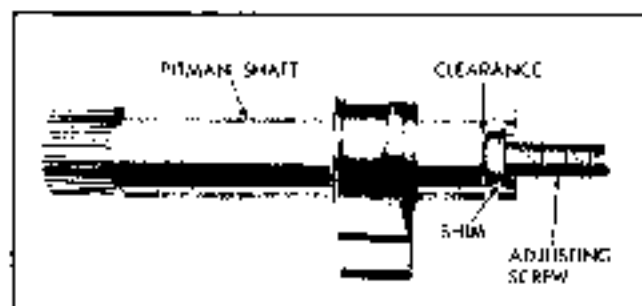

Fig. 9-41 Pitman Shaft and Adjusting Screw
4. Remove adjusting screw from shaft at end of pitman shaft. Make sure shim found on adjusting screw remains with screw (Fig. 9-41).
NOTE: If reading for "a" is not in specification, correct thrust bearing preload as follows: Loosen adjuster plug lock nut, using a drift or similar tool, and move flexible coupling (by turning steering wheel) as necessary to permit installation of tool J 7924 on adjuster plug (Fig. 9-41). Tighten plug to obtain proper bearing preload and retighten adjuster plug lock nut.